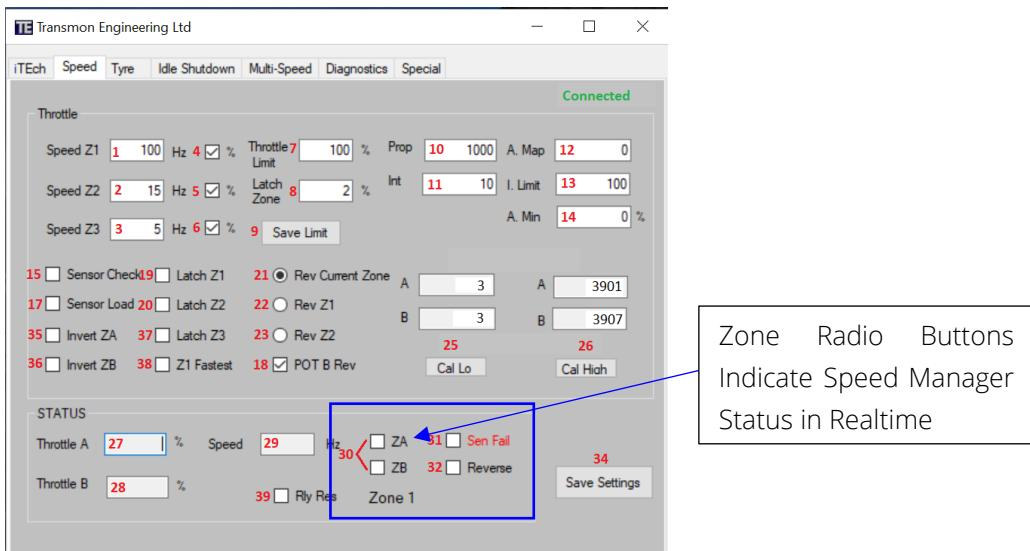

Figure 14: *Speed Manager Interface Realtime Zone Status Indication*
- Use Speed Manager Interface application to monitor Speed Zone status (see **Figure 14**)